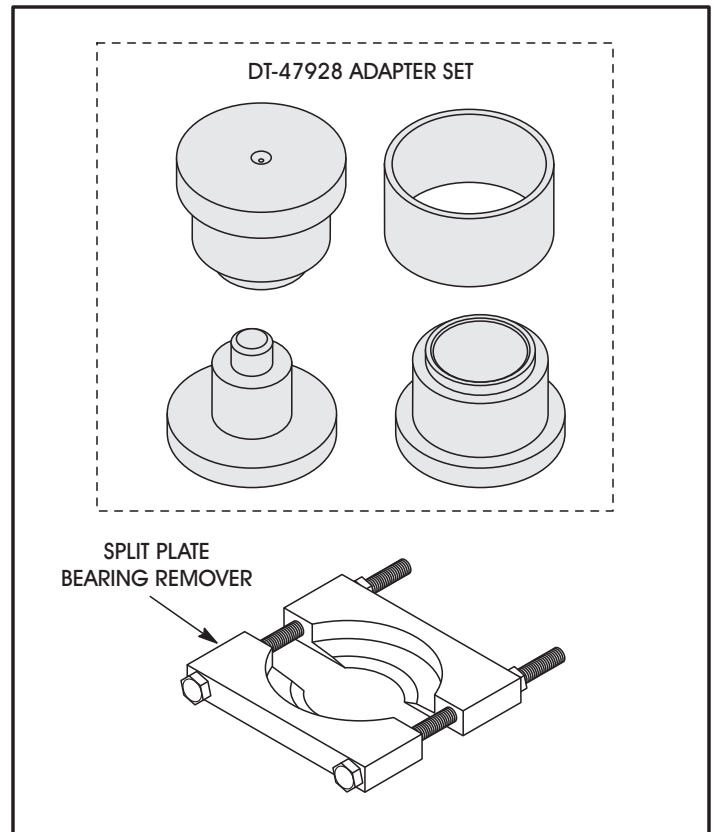

Figure 84
1. Special tools needed for differential and pinion bearing service are shown in Figure 84.